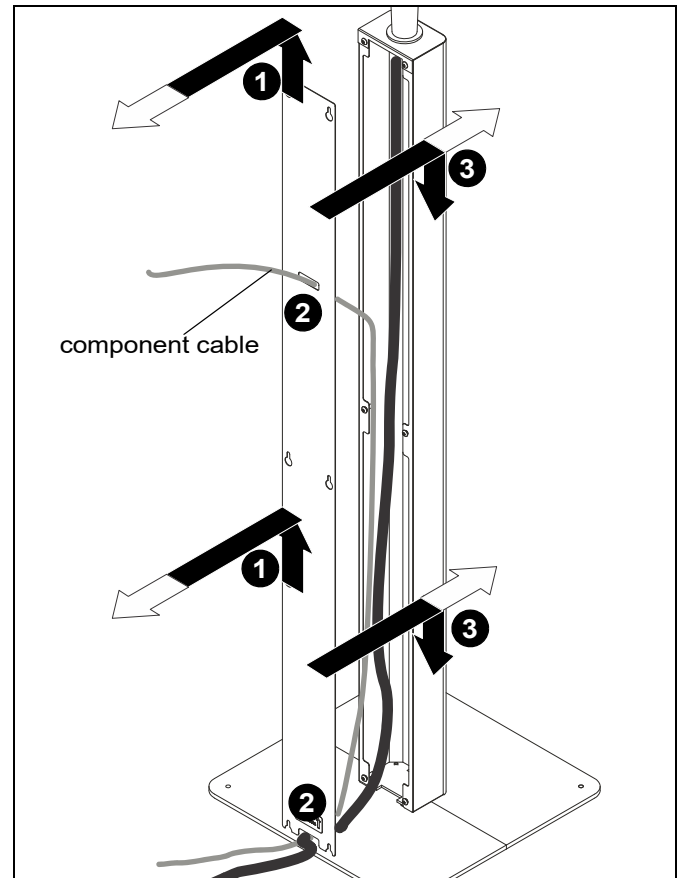

Figure 7
1. Loosen screws (E) holding cover (B) to column (A) and remove cover (B). (See Figure 7)
2. Route component cable(s) using middle and lower openings on cover (B). (See Figure 7)
3. Reinstall cover (B) and tighten screws (E) to secure cover (B) to column (A). (See Figure 7)